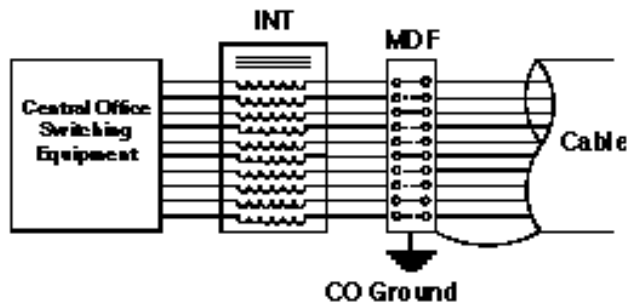

Figure 12: CO Located INT in Subscriber's Loop Cable with 'self excitation'
7.02 Figures 12, 13 and 14 show three different ways of "exciting" CO located INTs. CO
located INTs often self-excite – as a result, a dedicated exciting pair may not be required. See Figure 12.
and are often exposed to more than one power line influence. The circuits working in this type facility often have some type of ground at their terminals. Therefore, if an INT, as shown in Figure 12, is placed at each end, they will usually "self-excite."